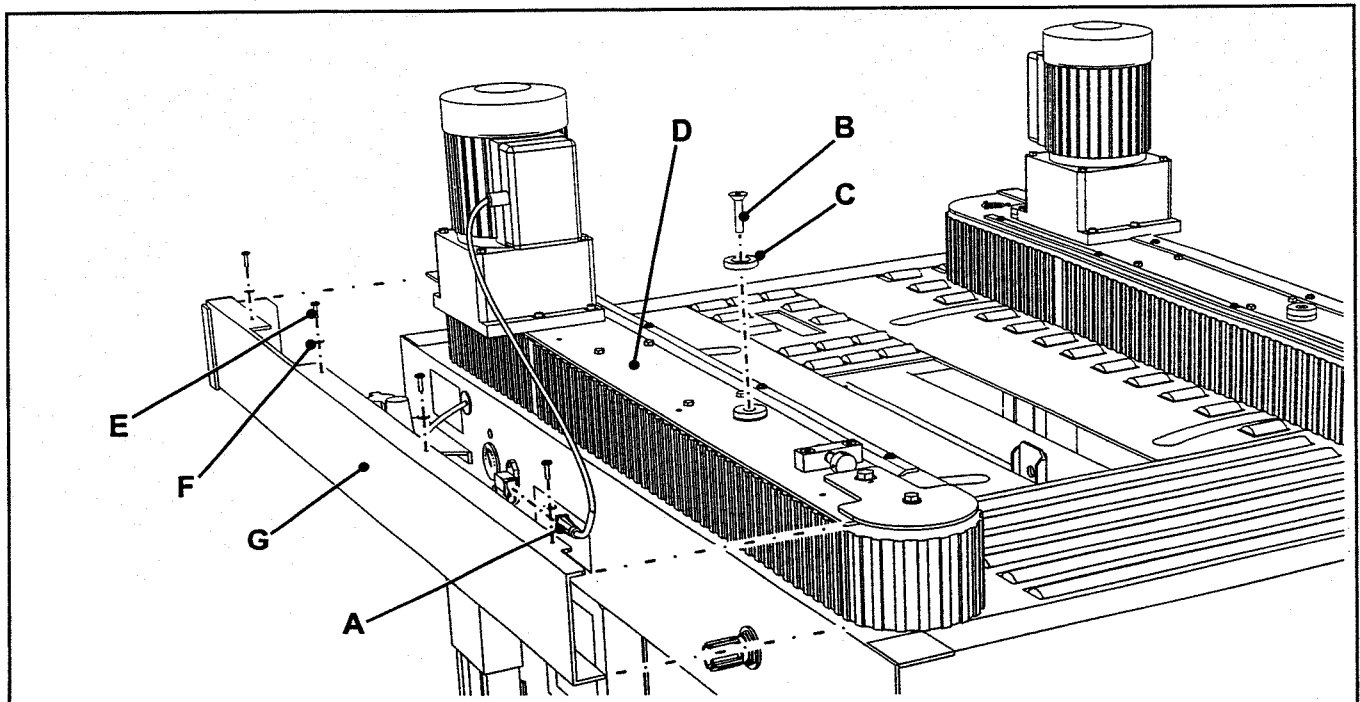

Figure 4-2 – Box Drive Belt (Left Side View – Infeed End)
2. Disconnect motor plug (A). Figure 4-2.
3. Remove and retain screw (B) and special washer (C) from front and rear arm assembly pivots.
4. Lift side drive assembly (D) up and off arm assembly pivots.
5. Remove and retain the four screws (E), washers (F) and side cover (G). See Figure 4-2.